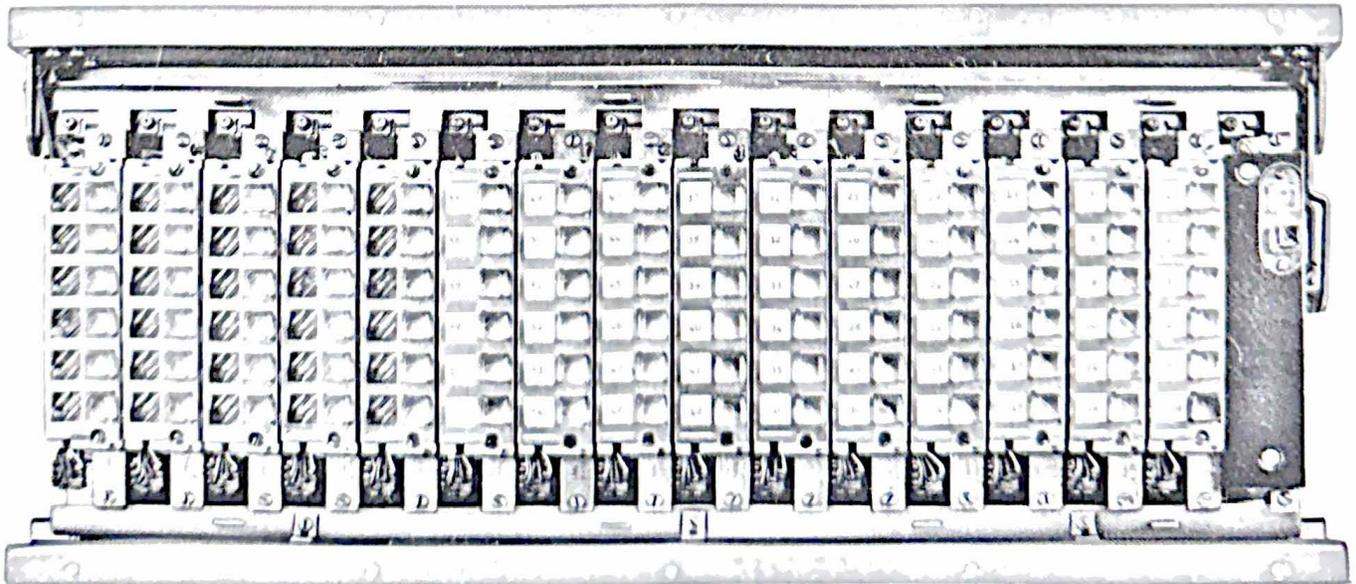

Fig. 7 — 403A Key Mounting, Faceplate Removed
5.01 Fig. 7 shows a typical 403A key mounting with keys in place.